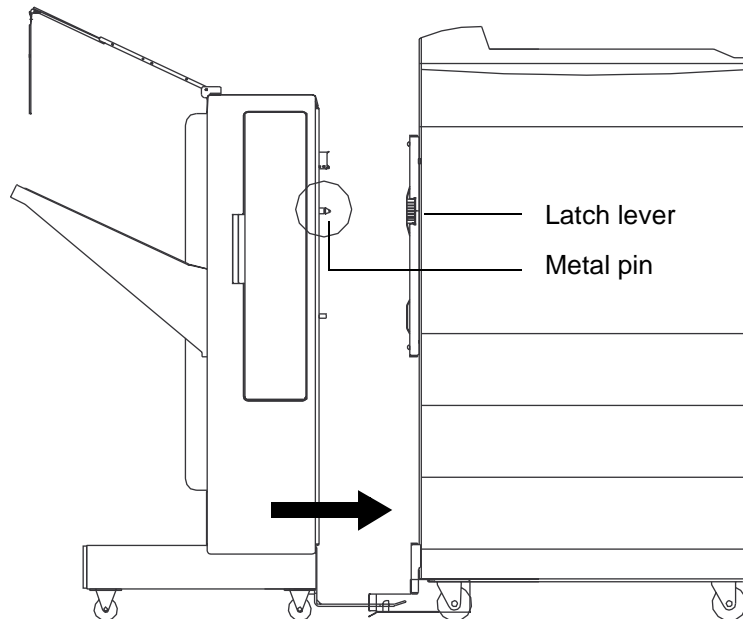

Figure 21 Connecting the HCO
Step 2 Push the HCO against the printer as shown in Figure 21.